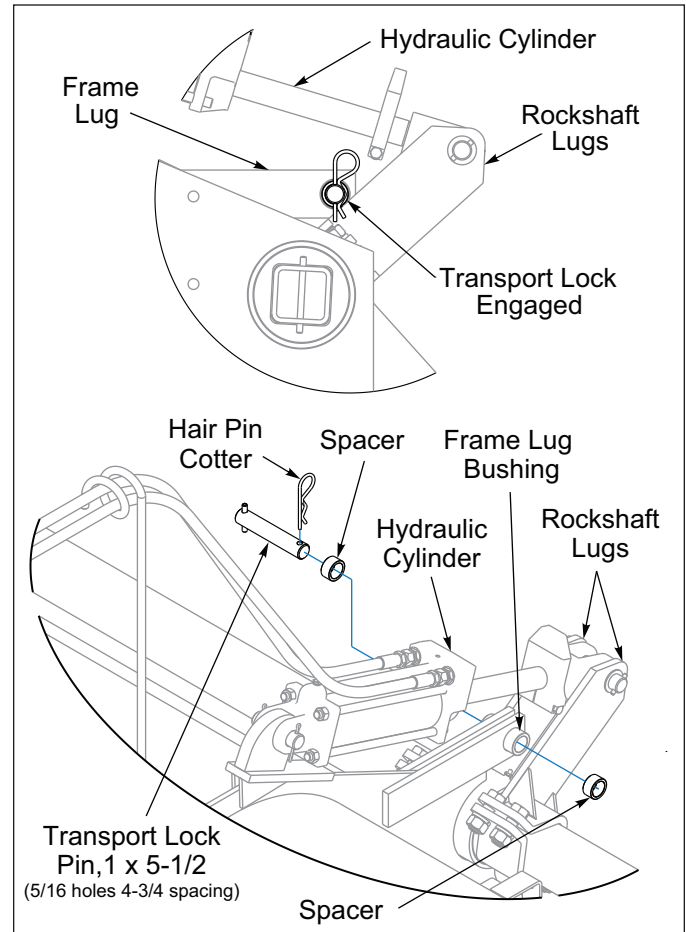

Figure 3-5: Transport Lock Engaged
6. If the Transport Lock Pin is not engaged, fully extend Hydraulic Cylinder and place the Transport Lock Pin, 1 x 5-1/2 with a Spacer on the Roll Pin side in the Frame Lug Bushing by the Rockshaft. Place other Spacer on the end of the Pin. Secure with Hair Pin Cotter. The Transport Lock is now engaged. **See Figure 3-5.**
2. Engage the Transport Lock if not already engaged. Remove Transport Lock Pin from the storage position in the Frame Center Plate. Place the Transport Lock Pin, 1 x 5-1/2 with a Spacer on the Roll Pin side in the Frame Lug Bushing by the Rockshaft. Place the other Spacer on the end of the Pin. Secure with Hair Pin Cotter. **See Figure 3-5.**
7. Raise the Shredder and install Transport Lock. **See Figure 3-5.**
2. Remove Transport Lock Pin, Spacers and Hair Pin Cotter from the Frame Lug Bushing. **See Figure 3-5.**
3. Insert the Transport Lock Pin with a Spacer on the Roll Pin side in the Frame Lug Bushing by the Rockshaft Lugs. Place the other Spacer on the end of the Pin. Secure with Hair Pin Cotter. **See Figure 3-5.**